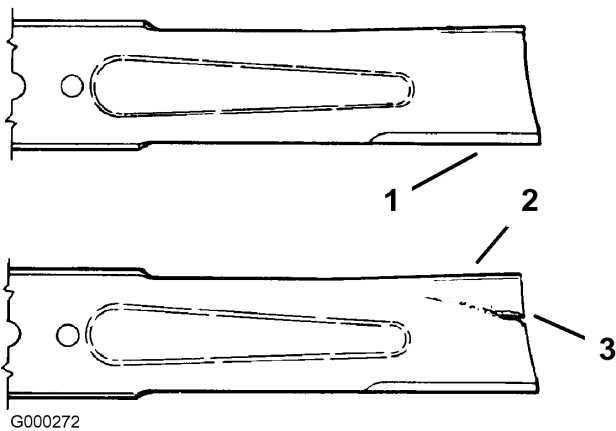

Figure 37
1. Inspect the cutting edges (Figure 37). If the edges are not sharp or have nicks, remove and sharpen the blades. Refer to Sharpening the Blades.
2. Inspect the blades, especially the curved area (Figure 37). If you notice any damage, wear, or a slot forming in this area (item 3 in Figure 37), immediately install a new blade.